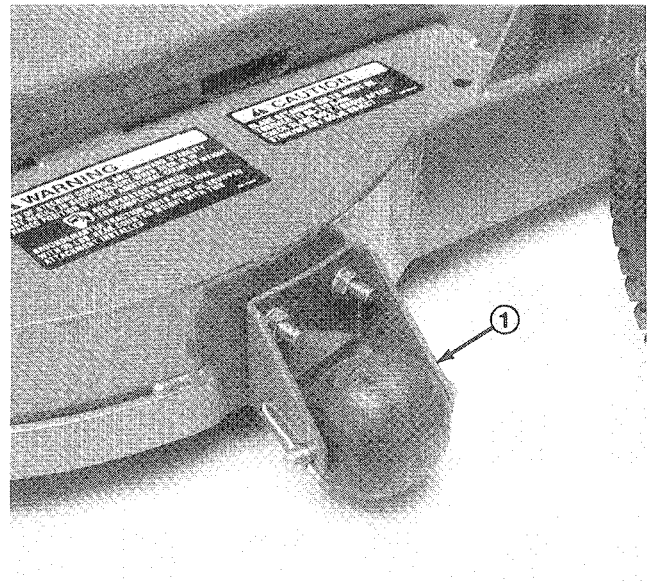

Figure 8
1. Remove capscrews and flange nuts securing roller bracket (Fig. 8) to deck.
1. Remove locknut from capscrew holding castor wheel assembly between castor fork (Fig. 8). Grasp castor wheel and slide capscrew out of fork.
Note: Account for the two thrust washers (Fig. 8).